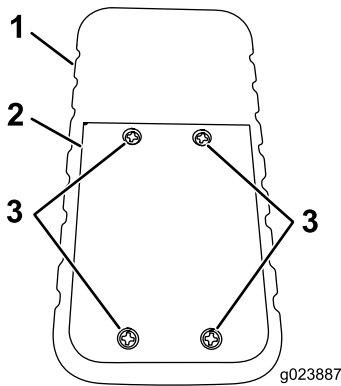

Figure 14
1. Loosen the 4 screws securing the battery cover (Figure 14).